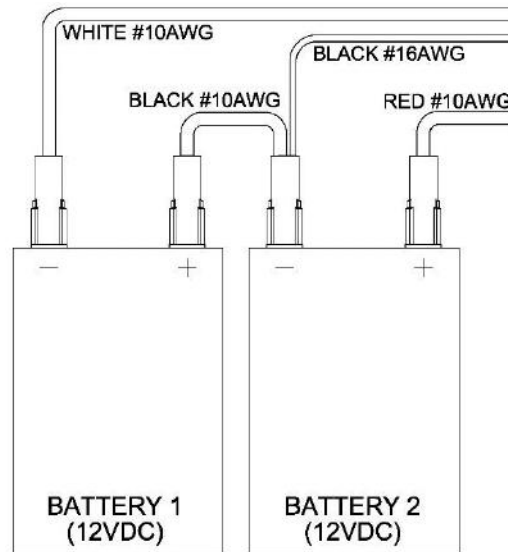

FIG. 20.3
20.2.1. Unplug all electrical wiring from battery terminals (FIG. 20.3).
20.3.5. Using FIG. 20.3 as a guide, plug previously removed wires back into batteries.